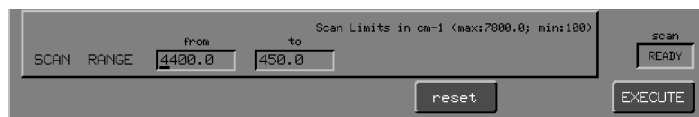

Figure 2-19 Scan Range Command Line and Soft Keys
*The command line and soft keys shown in Figure 2-19 are displayed. The alphanumeric cursor is in the **from** field.*